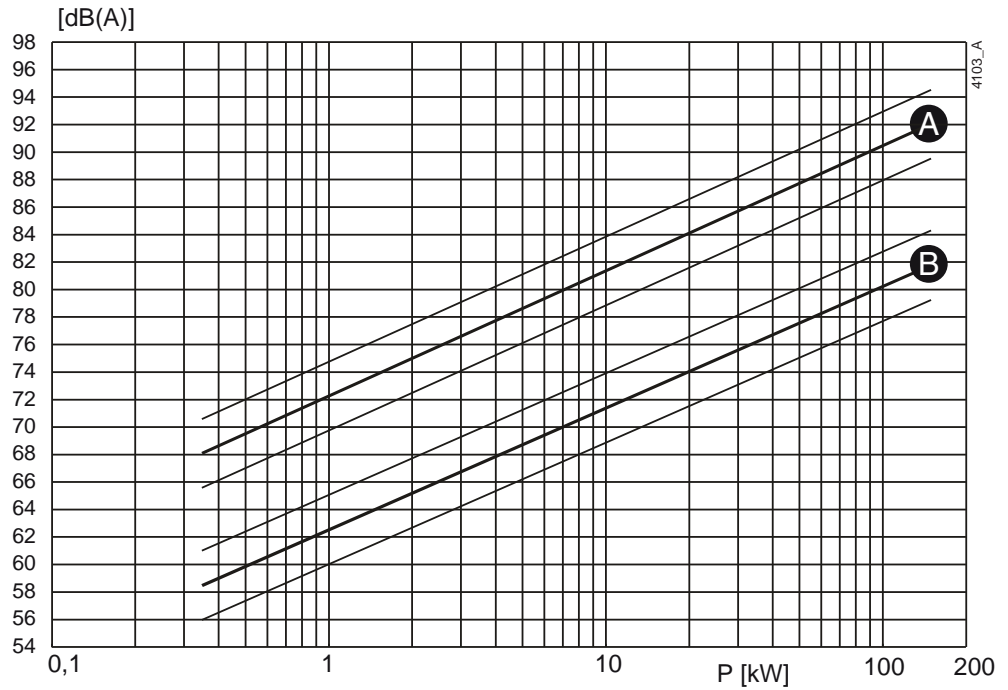
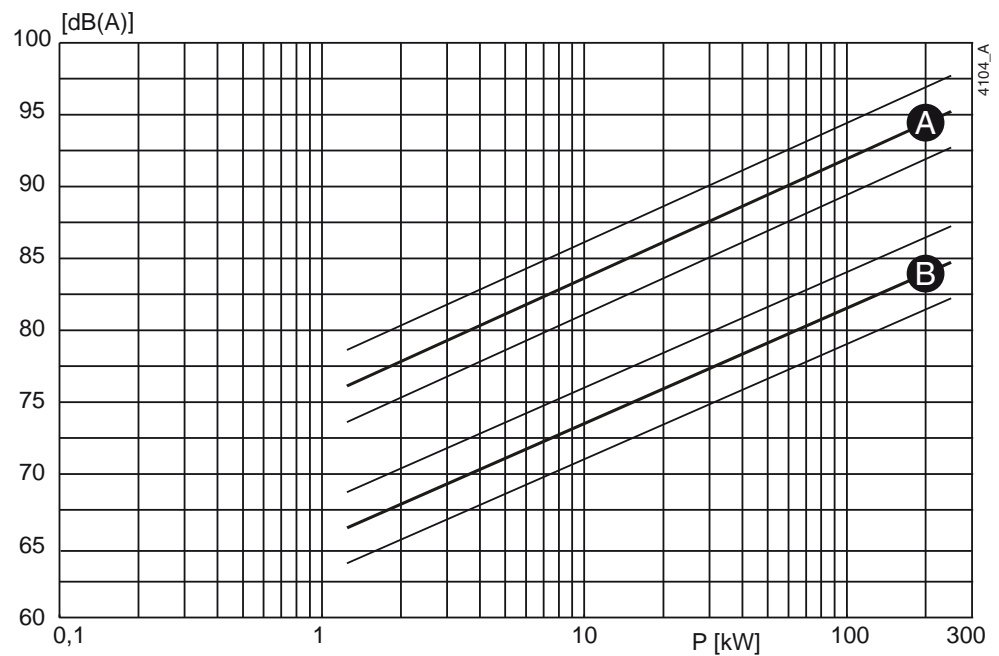

Figure 97: Noise level as function of pump power [kW] at 1450 min-1
Figure 98: Noise level as function of pump power [kW] at 2900 min-1
- 1 Determine the noise level ( $L_1$ ) of the pump, see figure 97 or figure 98.